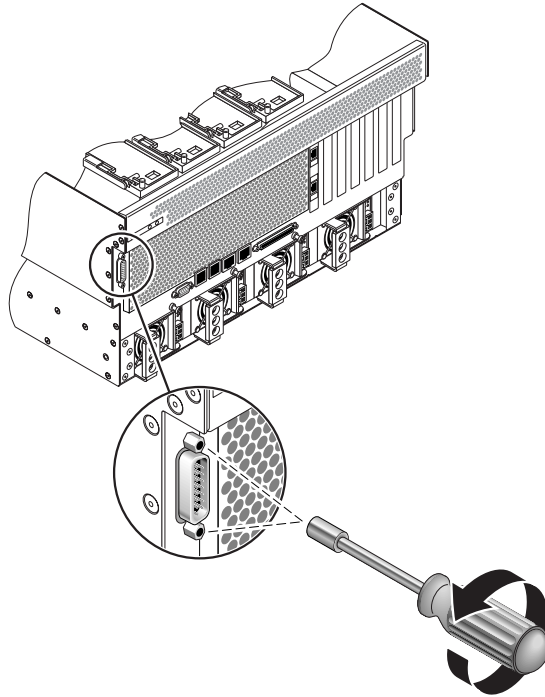

FIGURE 4-31 Removing the Alarm Port Connector from the Rear of the System
4. Remove the two screws that secure the alarm port connector to the rear of the system (FIGURE 4-31).
5. Insert the alarm port connector through the alarm port hole at the rear of the server and secure it using the two screw (FIGURE 4-31)s.